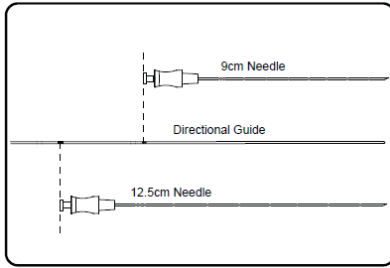

Figure 8. Insert the directional guide until the appropriate depth marker is aligned with the hub of the foramen needle
3. Insert the directional guide into the foramen needle, aligning the appropriate depth marker on the directional guide with the top of the foramen needle (**Figure 8**).